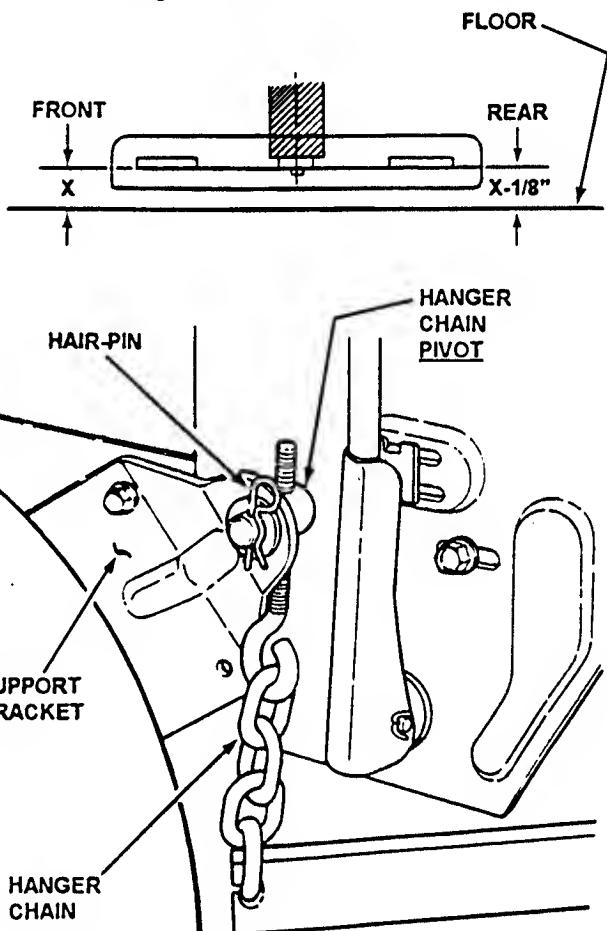

FIGURE 4.11
- i. Readjust rear hanger chain pivots to align with holes in support brackets. Refer to Figure 4.11.
- b. Turn each hanger pivot the same number of rotations on the eye-bolt to raise or lower the rear of the deck. See Figure 4.11.